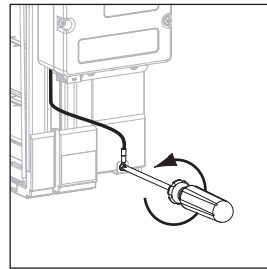

Fig. 4
- 4: Disconnect the green ground wire from the enhancement module (Fig. 4).